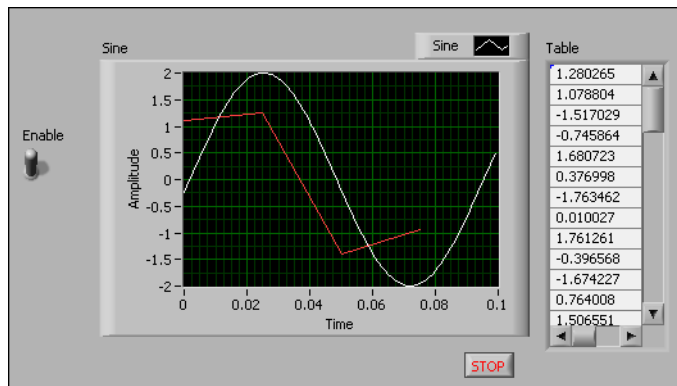

Figure 2-1. Front Panel of the Reduce Samples VI
In the following exercises, you will open a blank VI and add structures and Express VIs to the block diagram to build a new VI. You will build a VI that generates a signal, reduces the number of samples in the signal, and displays the resulting data in a table on the front panel. After you complete the exercises, the front panel of the VI will look similar to the front panel in Figure 2-1.
- Arrange the controls and indicators as shown in Figure 2-1.